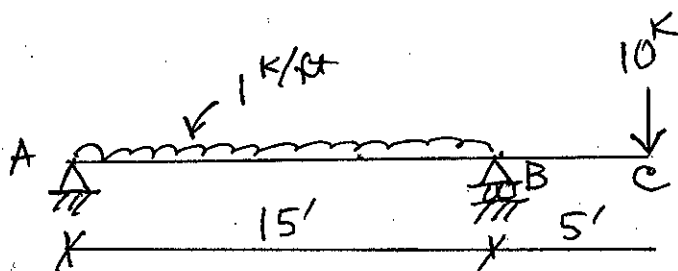
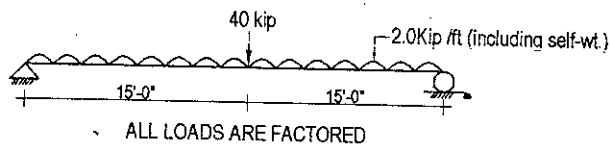

Fig. 4
Fig. 5
5. Using method of virtual work, calculate vertical deflection of point C of the beam shown in Fig. 4. Given: E = 29000 ksi, I = 500 in⁴. (28)
5. (a) Figure 4 shows the one-way reinforced concrete floor system of a commercial Building. Design the one-way slab supported by beams cast monolithically with the slab. The slab is to carry a service live load (LL) of 60 psf in addition to its self-weight. Assume floor finish (FF) load of 40 psf and partition wall (pw) load of 60 psf.
6. (a) Design the slab as two-way floor slab system, when there are no secondary beams B2 in the floor system of Fig. 4. The two-way slab panels are 25'×30' in plan, supported by column line beams only. Given : LL = 60 psf in addition to self-weight of slab; FF = 40 psf; PW = 60 psf; $f'_c = 3.5$ ksi and $f_y = 60$ ksi. Use supplied moment-co-efficient tables. Show the reinforcements in plan with neat sketches.
- (b) Calculate the development length of 16 mm and 25 mm uncoated top bars. Repeat the calculation for bottom bars also. Use $f_c' = 3.5$ ksi and $f_y = 60$ ksi. (8)
- (c) What do you understand by the term "serviceability" in RC design? (7)
7. (a) Determine both positive and negative reinforcements for the beam B1 supported on three columns as shown in Fig. 4. The beam B1 is to carry load from one-way slab given in Question 5(a) above. Consider self-weight of the beam. The size of the beam is 12" × 30". Consider material strength $f_c' = 3.5$ ksi and $f_y = 60$ ksi. Show the reinforcements in long and cross-sections. Use supplied moment coefficient table. (20)
- (b) What are the BNBC/ACI code provisions for beam stirrups (hoops) for moderate seismic risk region e.g. Dhaka? (8)
- (c) Discuss in short about equilibrium and compatibility torsion. (7)
8. (a) Design the stirrups for the beam shown in Fig. 5. All loads are factored. Calculate the stirrups with 3 sets of spacings. Width of beam $b = 12$ " and effective depth $d = 21$ ". Given: $f_c' = 3.0$ ksi and $f_y = 60$ ksi. (20)
- (b) Why does ACI/BNBC code recommend increased development lengths for bars in a bundled group of reinforcements? Mention the recommended increased lengths for such bars. (8)
- (c) What are the factors that influence development length of rebar? (7)